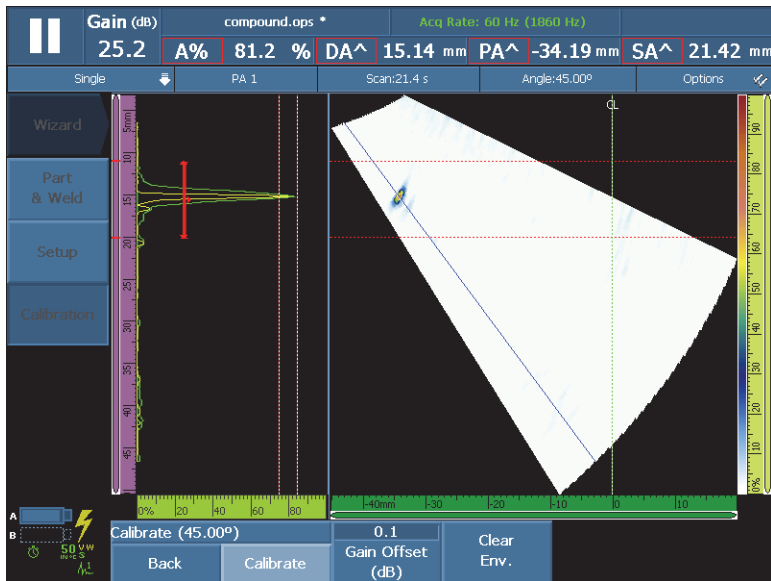

Figure 5-16 Building the envelope for the sensitivity calibration of the first angle
- a) Move the probe forward and backward over the reference reflector to build an envelope (see Figure 5-16 on page 134).